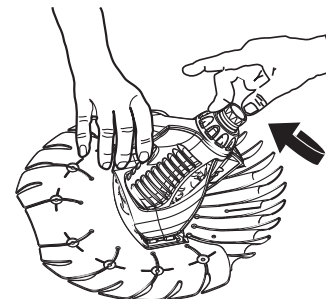

Figure 13
5. Make sure the extension tube swivels freely by spinning it (see Figure 13).